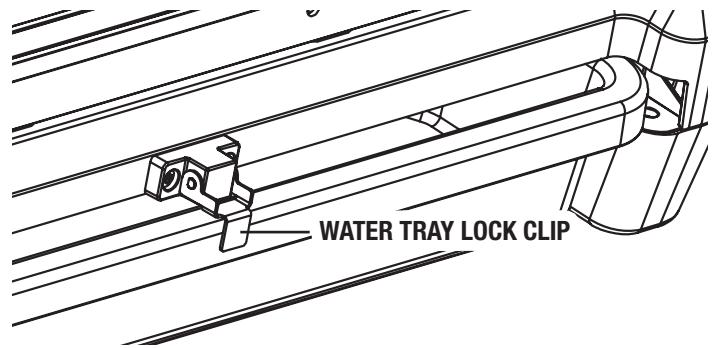

Fig. 42
3. Secure the water tray lock (Fig. 42).